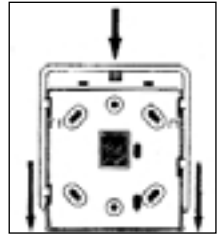

FIGURE 1
See figures 1, 2, and 3 for typical CO alarm locations within the home.
1. From back of CO alarm, slide mounting plate and lift from base. See Figure 1.